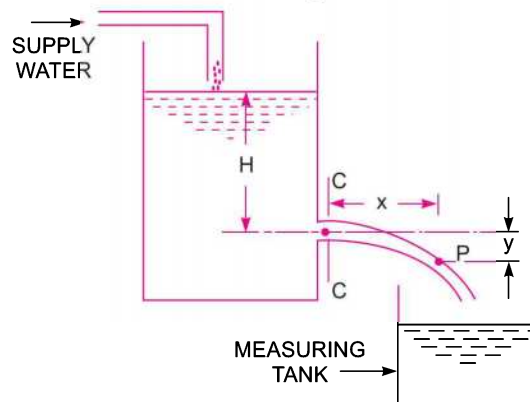

Fig. 7.2 Value of  $C_d$
**7.5.1 Determination of Co-efficient of Discharge ( $C_d$ ).** The water is allowed to flow through an orifice fitted to a tank under a constant head,  $H$  as shown in Fig. 7.2. The water is collected in a measuring tank for a known time,  $t$ . The height of water in the measuring tank is noted down. Then actual discharge through orifice,
**7.5.2 Determination of Co-efficient of Velocity ( $C_v$ ).** Let  $C-C$  represents the vena-contracta of a jet of water coming out from an orifice under constant head  $H$  as shown in Fig. 7.2. Consider a liquid particle which is at vena-contracta at any time and takes the position at  $P$  along the jet in time ' $t$ '.